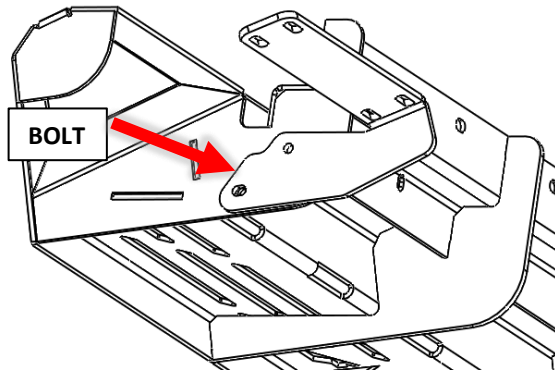

Figure 9: Installation of 90 Degree Bracket
10. Loosely install the 90 degree bracket to the back of the rear bracing on the rear shroud. Use the pre-cut hole on the shroud bracing and the lower, slotted hole on the 90 degree bracket to loosely connect (Figure 9).